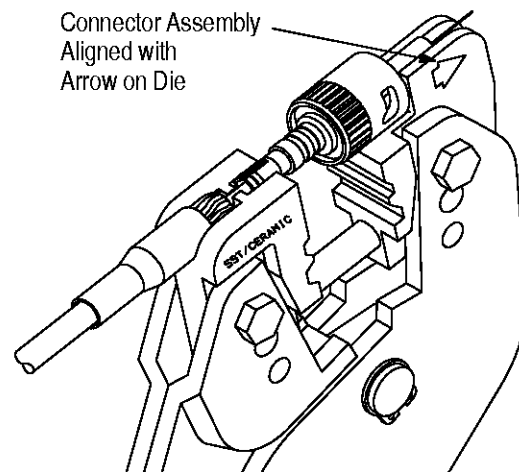

Figure 8
5. Gently close the tool until you hear one click from the ratchet. Position the connector assembly in the dies so that the die shoulder is located between the plunger and the folded-back strength members. The connector assembly should be aligned with the direction of the arrows on the dies. The eyelet and strength members are positioned in the larger-width pocket. See Figure 8.